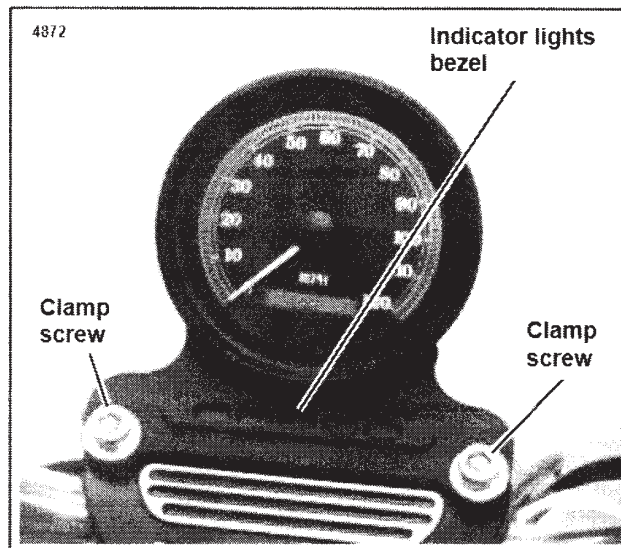

Figure 5. Handlebar Clamp Screws
1. See Figure 5. Remove the screws that secure the gauge bracket to the handlebar clamp.
1. See Figure 5. Place the indicator light bezel and color strip on front of gauge bracket. Be sure color strip is positioned on locating pins.
See Figure 5. Place speedometer bracket in position and install screws snugly enough to hold handlebars in place. Do not tighten at this time.